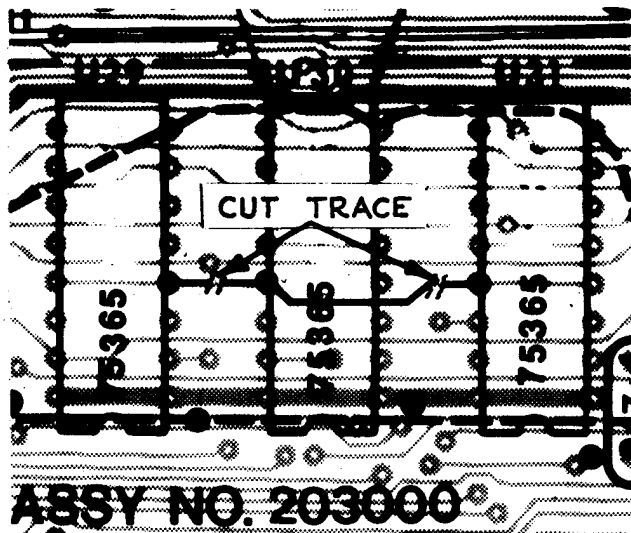
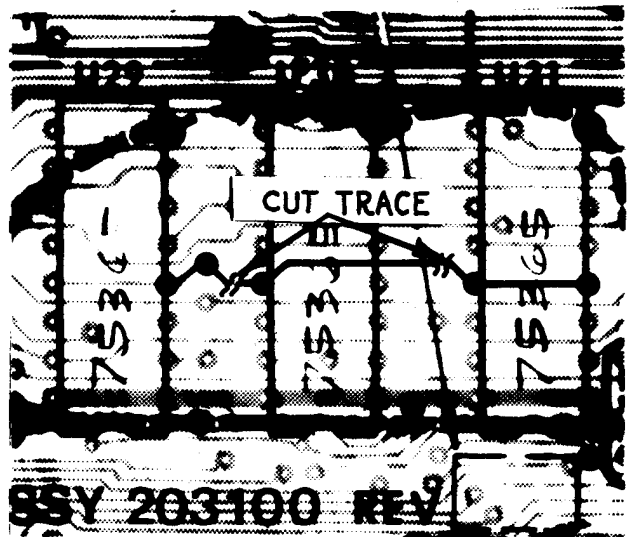

Figure 2
Figure 3
- 1) On the component side of a 16KRA board, cut the trace that connects U30-pin 13 and U29-pin 4, and the trace that connects U31-pin 13 and U30-pin 13, as shown in Figure 2. On a 32KRA board cut the trace between U30-pin 13 and the nearby feedthrough pad, and the trace that connects U31-pin 13 and U30-pin 13, as shown in Figure 3.